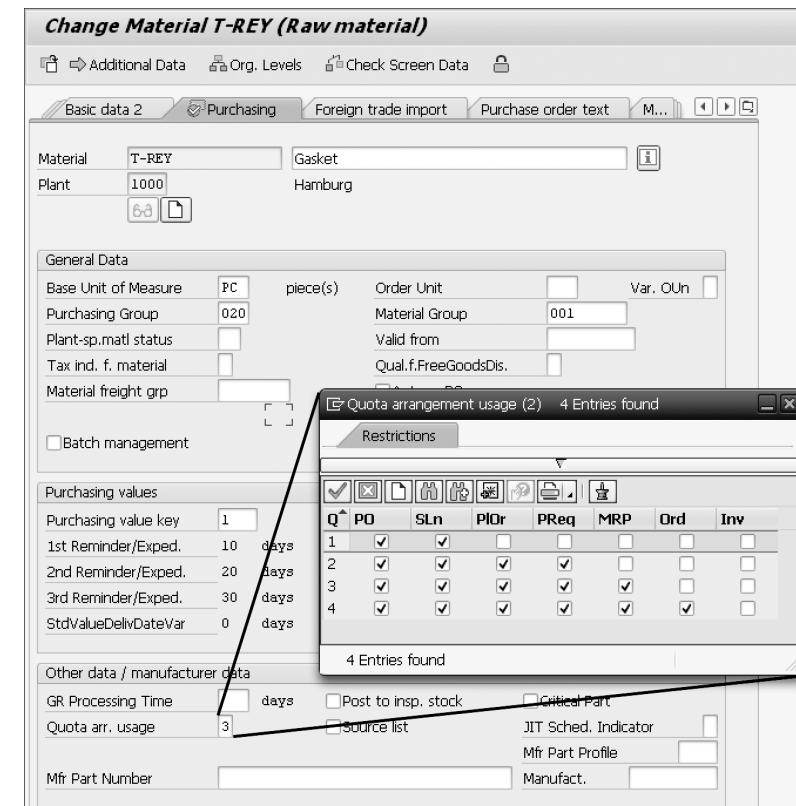

Figure 2.15 Material Master: Assign Quota Arrangement Usage
3. Assign the code defined in IMG Customizing to the material master of an item you're planning to manage using quota arrangements (see Figure 2.15 for an example).